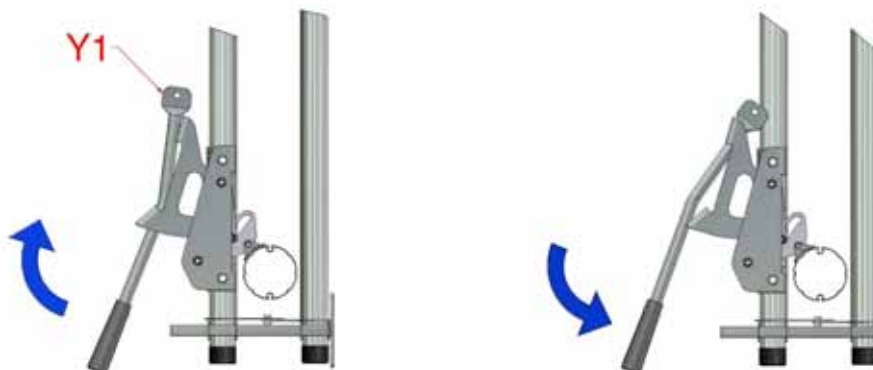

Figure 33, Locking Catch Hand Operation
- 8.4 If the Multibay is fitted above a barrier then the Locking Catches will need to be operated by hand with the help of the locking catch lever (Y1), Figure 33.